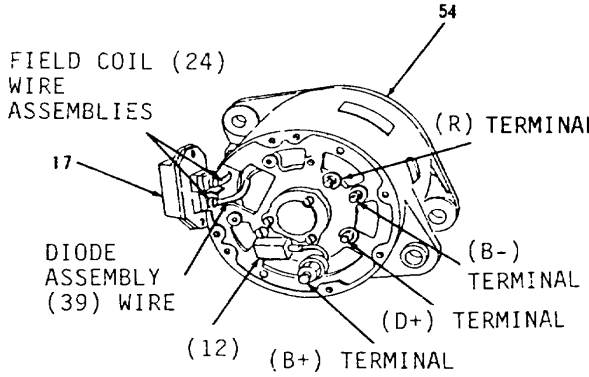

Figure 4-29.
- 1. Test capacitor (12) on alternator. Disconnect capacitor (12) wire assembly from (D+) terminal. Connect ohmmeter between capacitor (12) wire assembly and terminal (B-). Replace capacitor (12, Figure 4-29) if meter reading is not 200K ohms or more.
- 4. Test regulator (17, Figure 4-29) on alternator.